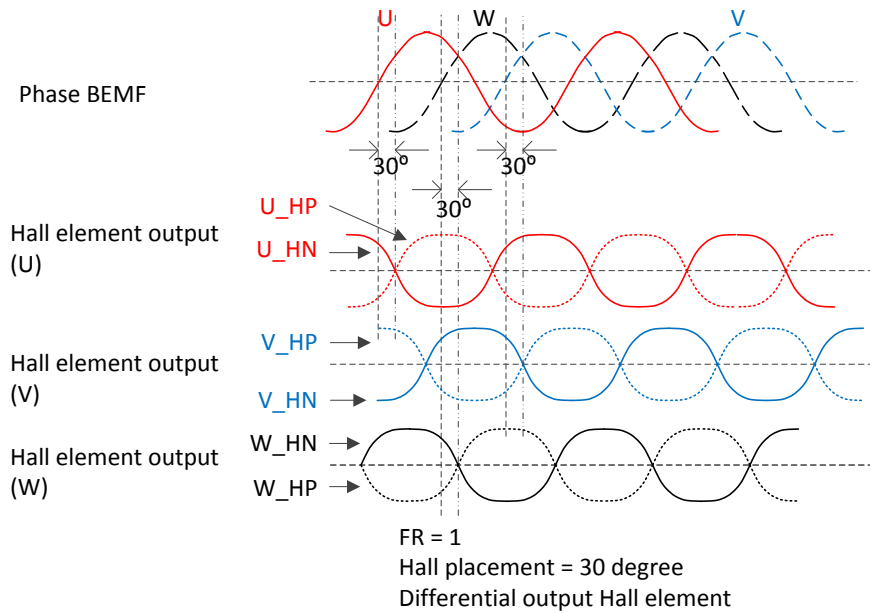
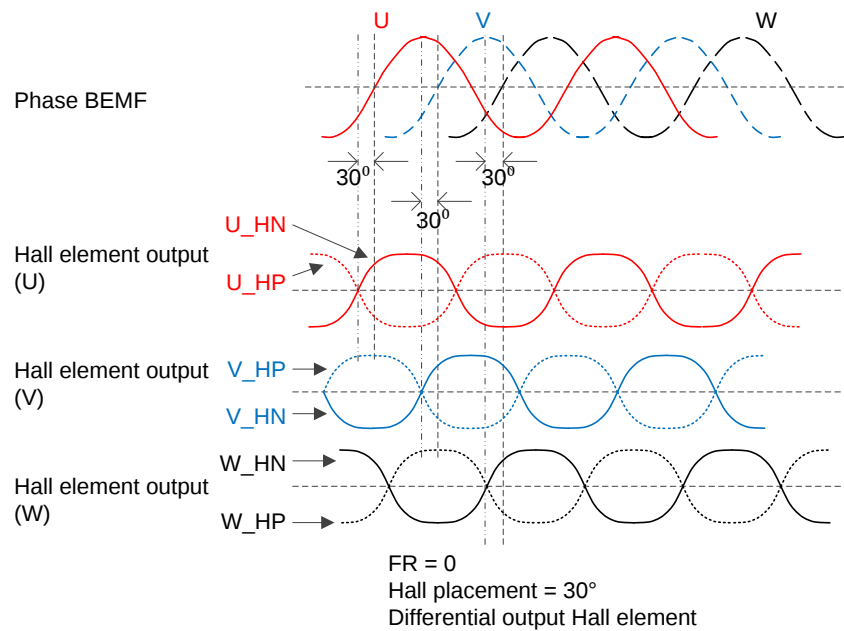
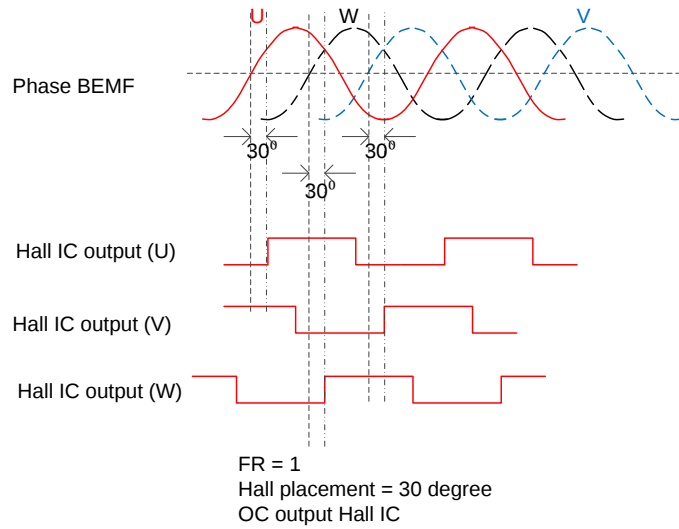

**图 24. Correspondence Between Motor BEMF and Hall Signal
**图 25. Correspondence Between Motor BEMF and Hall Signal
**图 26. Correspondence Between Motor BEMF and Hall Signal (FR = 1, 30° Placement)**
1. Phase U is leading phase W by 120°, phase W is leading phase V by 120°. The Hall signal positive output is aligned with respective phase BEMF. Choose FR = 1 and 0° placement option (see 图 24).
2. Phase U is leading phase V by 120°, phase V is leading phase W by 120°. The Hall signal positive output is aligned with respective phase BEMF in the opposite direction. Choose FR = 0 and 0° placement option (see 图 25).
3. Phase U is leading phase W by 120°, phase W is leading phase V by 120°. The Hall signal positive output is 30° lagging of respective phase BEMF. Choose FR = 1 and 30° placement option (see 图 26).
6. Turn the rotor manually in clock-wise direction. If the waveform on probe-1 (U-phase) is leading probe-2 (terminal-B) by  $120^\circ$ , name the terminal-B as phase W and terminal-C as phase V. Else if waveform on the probe-2 is leading probe 1 (U) by  $120^\circ$ , terminal-B as V, terminal-C as W. At this stage all three phases of the motor are identified.
9. After phase UVW and Hall UVW positive negative are identified, manually rotate the motor again, check if the result matches 图 24 and 图 25 ( $0^\circ$  placement) or 图 26 and 图 25 ( $30^\circ$  placement).